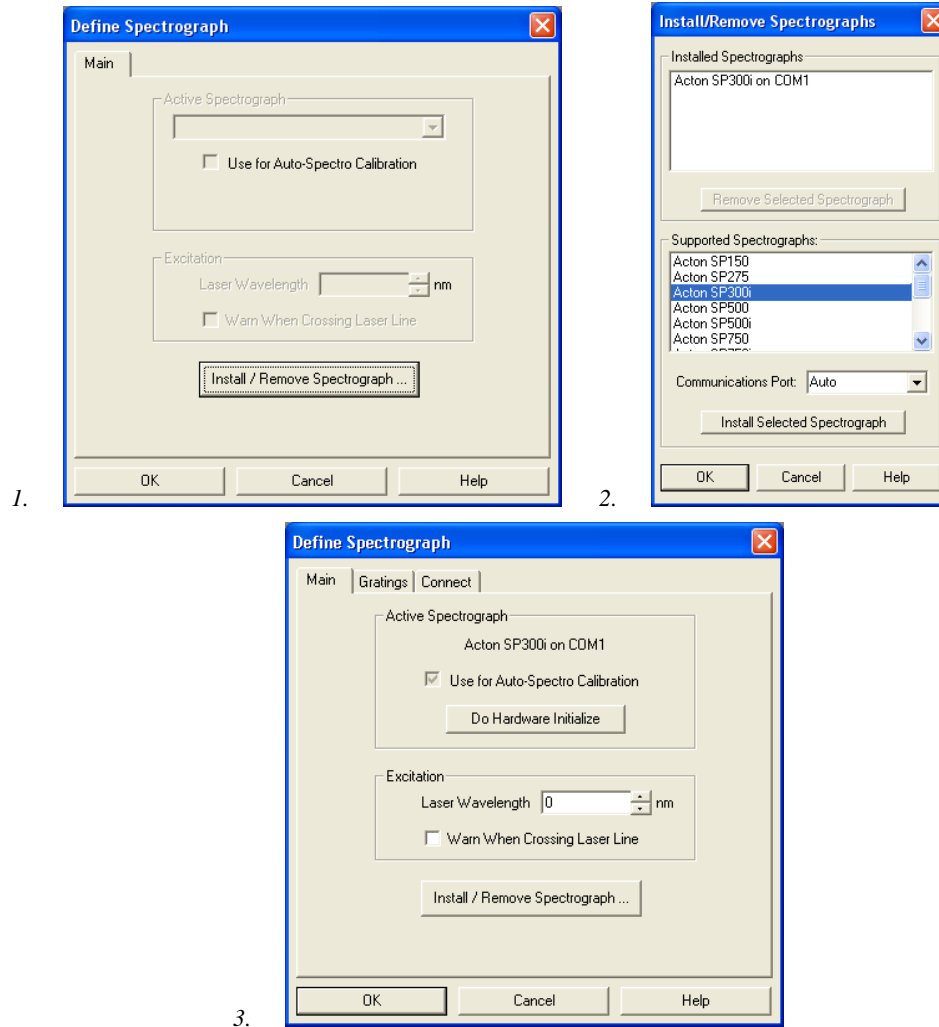

Figure 39. Define Spectrograph and Install/Remove Spectrographs dialogs
3. If you have a spectrograph, set the spectrograph properties by using the menu items on the “Spectrograph” menu (WinSpec/32 only). If the spectrograph you will be using has not been installed, first click on “Install/Remove Spectrograph” and do so before setting the properties. Figure 39 shows the WinSpec/32 sequence for an Action 300I spectrograph.